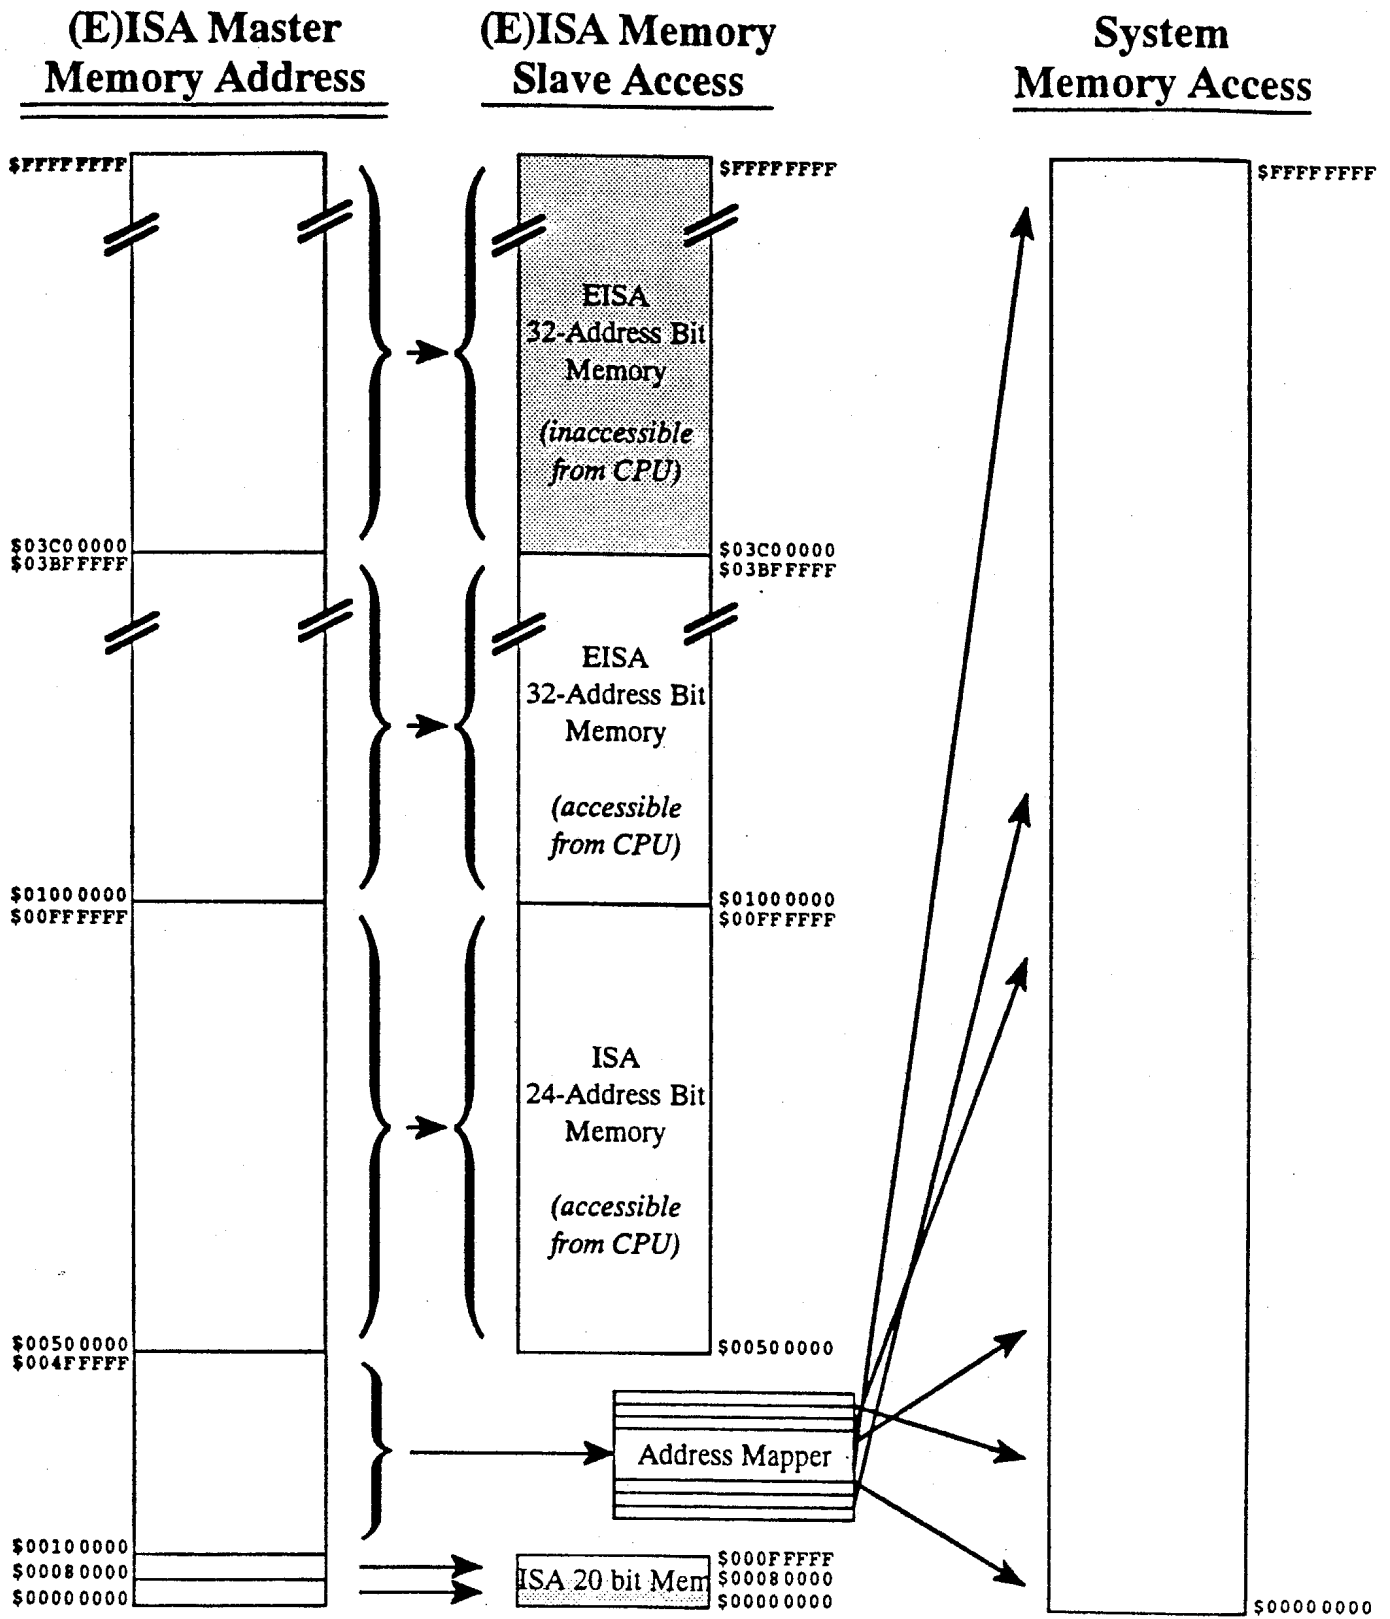

Figure 5 Accesses from an (E)ISA Master
Figure 5 shows (E)ISA *memory* space as seen by an EISA or ISA master (note that the master can access (E)ISA I/O space too; the converter doesn't get involved in those accesses at all):